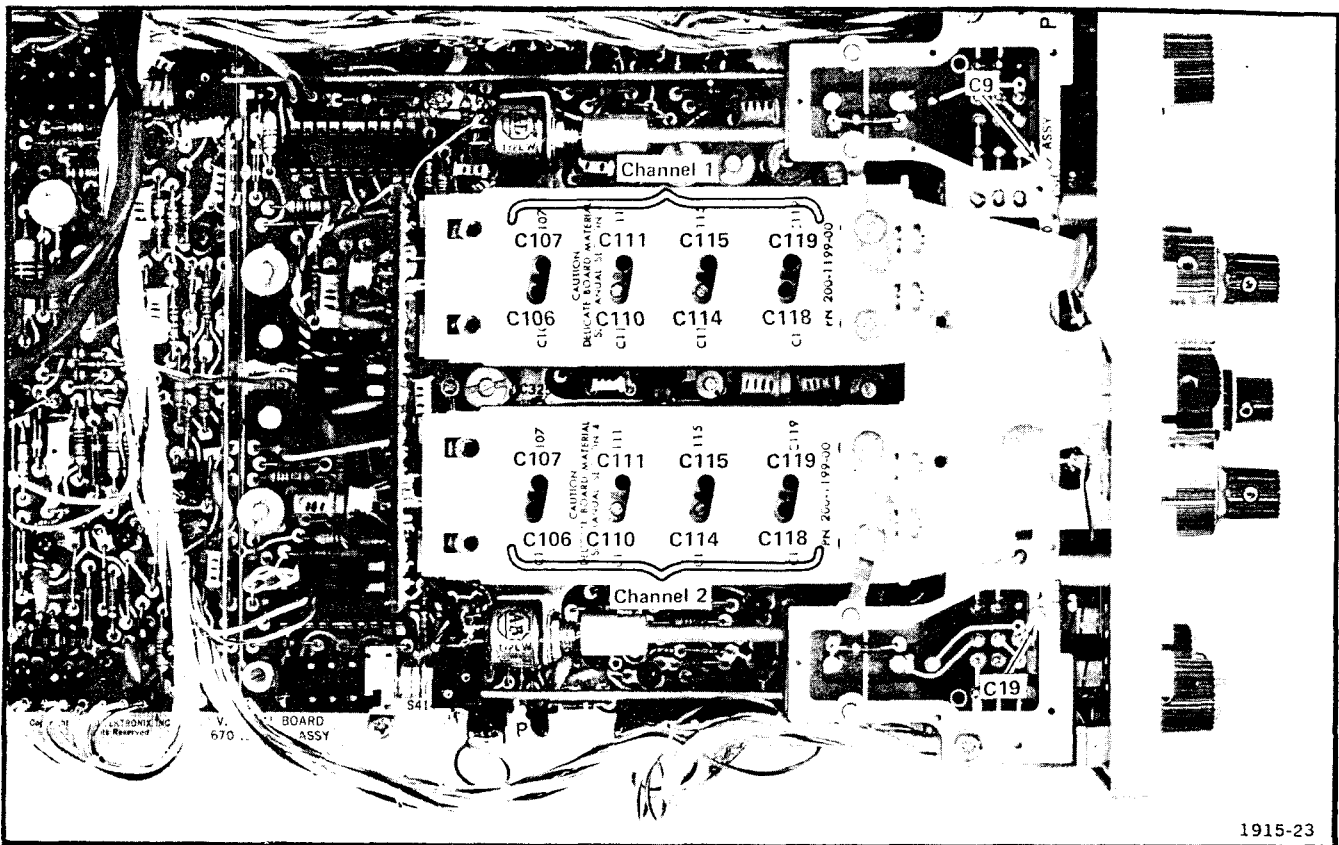

Fig. 5-5. Location of CH 1 and CH 2 Switch Compensation Adjustments.
f. ADJUST—Channel 1 VOLTS/DIV switch compensation as given in Table 5-2. Adjust for optimum square corner and flat top. Remove the 10X attenuator and/or 50  $\Omega$  BNC termination as necessary to maintain a 5-division display amplitude. Fig. 5-5 shows the location of the variable compensation adjustments.
e. ADJUST—Channel 2 VOLTS/DIV switch compensation as given in Table 5-2. Adjust for optimum square corner and flat top. Remove the 10X attenuator and 50 Ω BNC termination as necessary to maintain a 5-division display amplitude. Fig. 5-5 shows the location of the variable compensation adjustments.